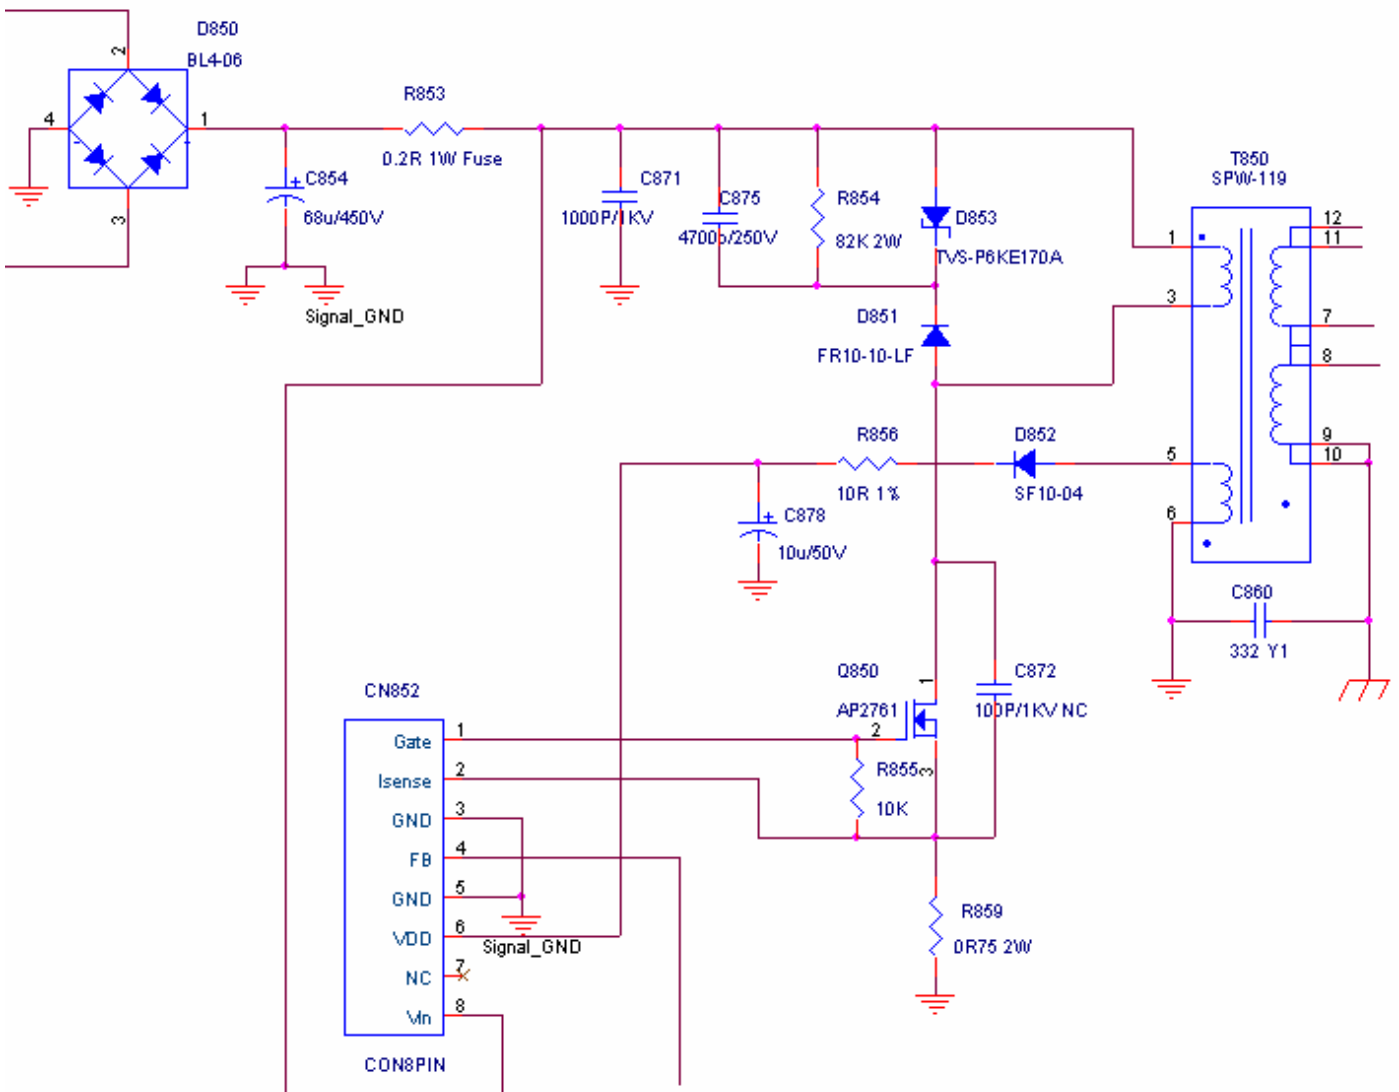

fig.6
2.2.3) High Voltage to Low Voltage Control Circuit :(fig.6)